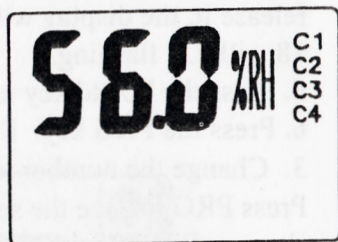

FIG22
9. By Pressing NX/td, MN/MX to change the number to 56. Then press PRG key to save. It shows as Fig. 22 with C3 flashing.